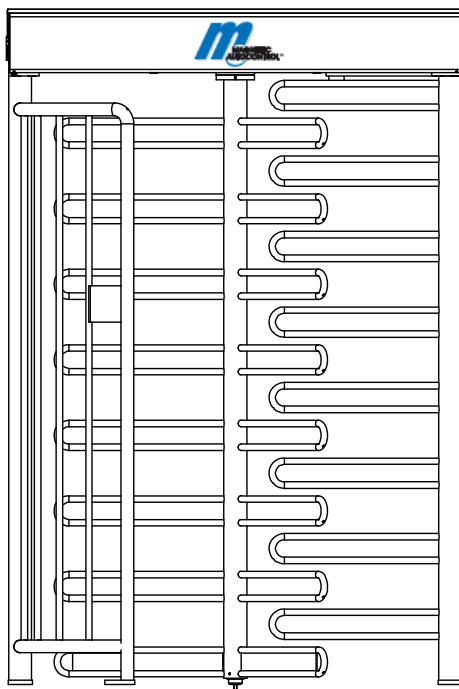
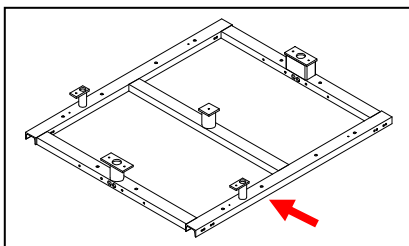
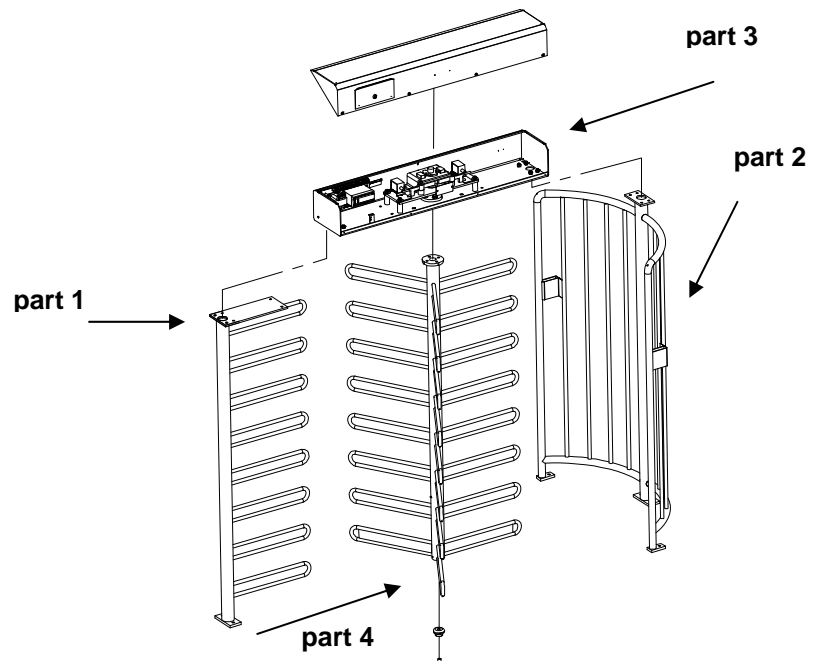

Fig. 2.1 Entry "left version"
Fig. 5.1 Entry Left version
Fig.6
(See Fig 2.1 / 2.2, Fig. 5.1 / 5.2, Fig. 6)
- The turnstile should be positioned in its desired location taking care on which side (right or left) you want to place part 2. (See Fig. 2.1/ 2.2, Fig. 6) This is important in case you want to mount access control units at part 2.
4. screw together (see fig. 5.1)